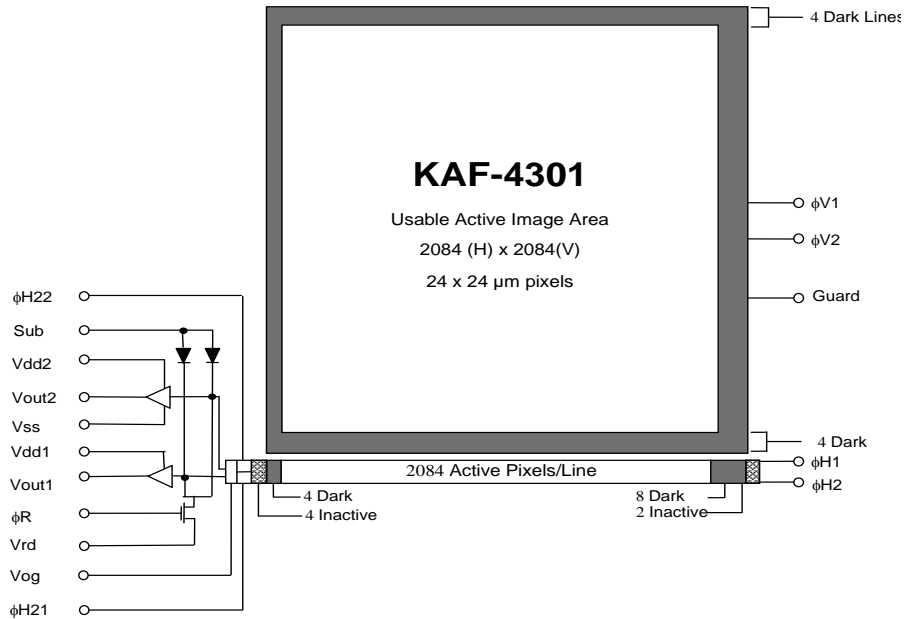

Figure 1: Block Diagram
Refer to the block diagram in Figure 1. The KAF-4301 consists of 2092 vertical (parallel) CCD shift registers, one horizontal (serial) CCD shift register and a selectable high or low gain output amplifier. Both registers incorporate true two-phase buried channel technology. The vertical registers contain 24 μm x 24 μm photocapacitor sensing elements (pixels) that also serves as the transport mechanism. The pixels are arranged in a 2084(H) x 2084(V) array; an additional 8 columns (4 at the left and 4 at the right) and 8 rows (4 each at top and bottom) of non-imaging pixels are added as dark reference. This device must be synchronized with strobe illumination or shuttered during readout because there is no storage array.